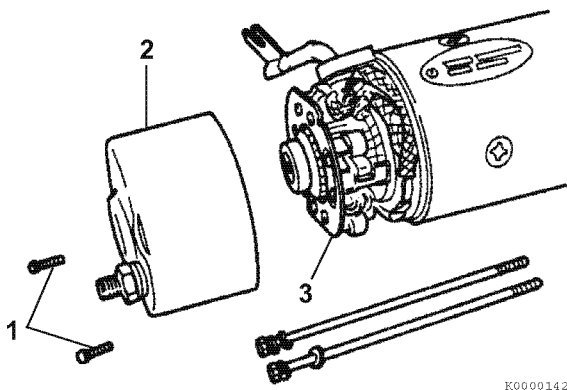

Figure 11-32
11. Carefully reinstall the brush holder (3, **Figure 11-32**) assembly.
12. Reinstall the rear cover (2, **Figure 11-32**) and secure with two bolts (1, **Figure 11-32**).